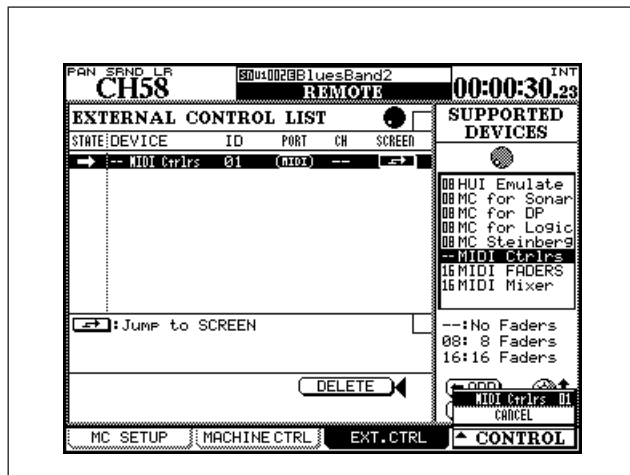

Figure 8.3: External Control
- 2 Move the cursor to the SCREEN column with the on-screen button, and press ENTER, or (as shown in Figure 8.3, *External Control*), press the POD 4 switch to bring up the popup menu
- 1 Select the **MIDI FADERS** option from the external control screen (Figure 8.3, *External Control*).
- 1 Select the **MIDI MIXER** option from the external control screen (Figure 8.3, *External Control*).